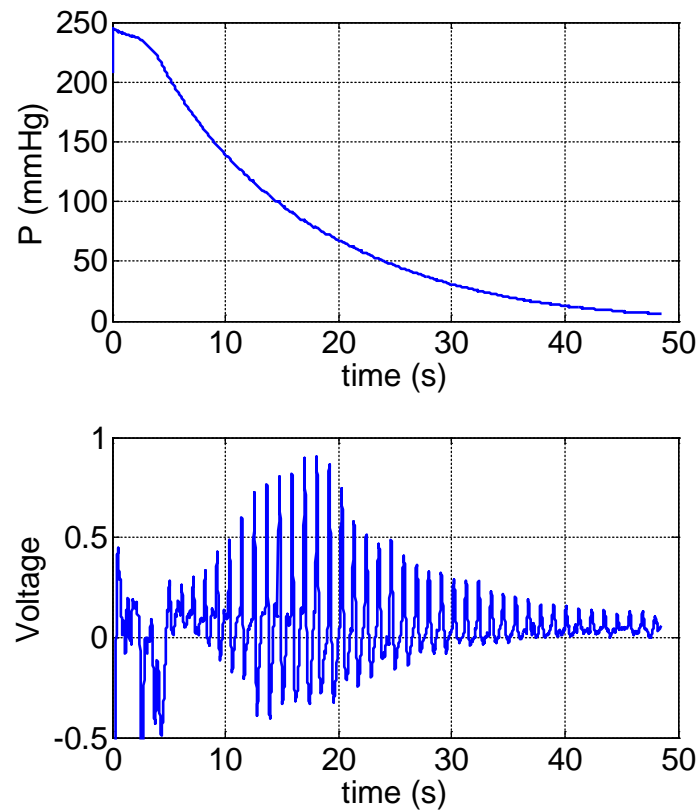

Figure 2: Raw pressure signal and processed signal. The oscillations in the lower figure are due to the patient's pulse.
If we process the pressure signal to remove the slow decay (a high pass filter), clean up the noise (a low pass filter), and amplify, we can obtain a result as seen in Figure 2. In Figure 2, the upper signal shows the raw pressure signal while the lower signal shows the processed signal which isolates the pulse. The pulse amplitude grows as the cuff pressure releases, then the pulse amplitude decreases. It is at the time when the pulse amplitude is maximum that we call that pressure the mean blood pressure. The figure shown in Figure 2 is what you will feel, your pulse intensifies and then decays.
Your task is to design and build a circuit capable of finding your mean blood pressure as in Figure 2. The circuit is shown below. Note that you will need to select component values this week!
To build and debug the circuit it is best to build and test as you go. Leave W1 playing continuously and monitor the output as you build complexity. You are trying to get an output that looks similar to Figure 2.
- Data for the final BP measurement. Your version of figure 2. You may want to include the playback data as well as your own measurement if you took both.